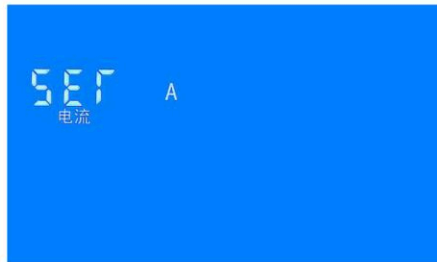

Figure 7 Current range setting interface
Step 1: In the normal display interface, long press the button until the LCD shows the interface of Figure 2, then release the button, short press the button again switch to the interface to Figure 7, it indicates that this state is the current range setting state.